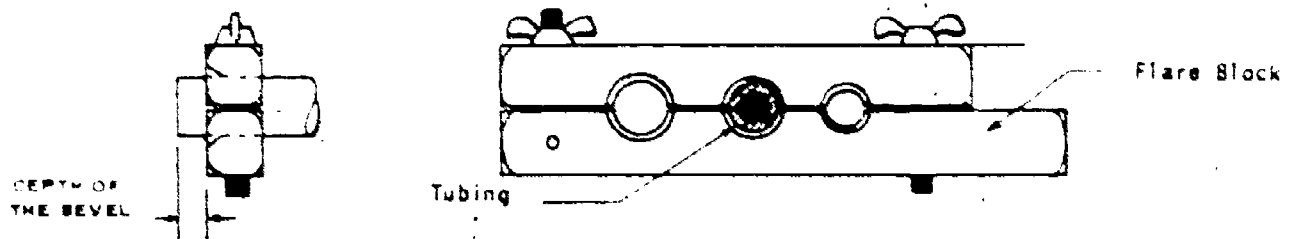

Figure 2. Tube Installed in Flare Block
3. Place the tubing in the flaring block (see figure 2).